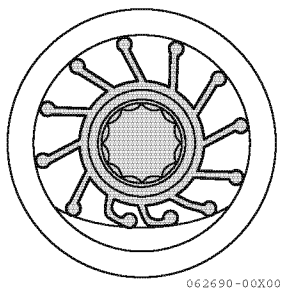

Figure 17
4. When installing the impeller, position blades of the impeller as shown in the illustration. (**Figure 17**)